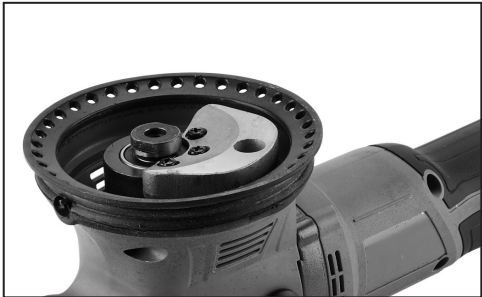

FIG. 3
6.3 FITTING THE BACKING PAD – FIGS. 3–4